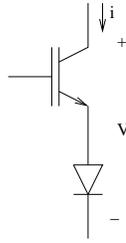

Figure 5.12: Combine Elements 2
2. Block positive and negative V and carry positive i (see Figure 5.12).